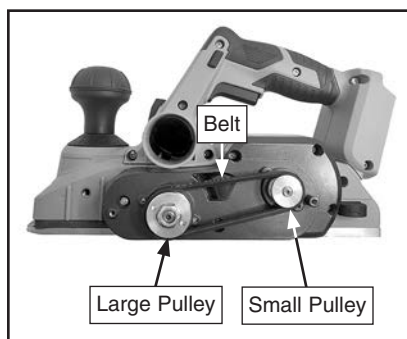

Figure 30. Location of belt and pulleys.
4. Rotate belt clockwise while gradually working it off of pulleys (see **Figure 30**).
5. Place new belt around small pulley, then rotate belt clockwise while working it onto large pulley (see **Figure 30**).